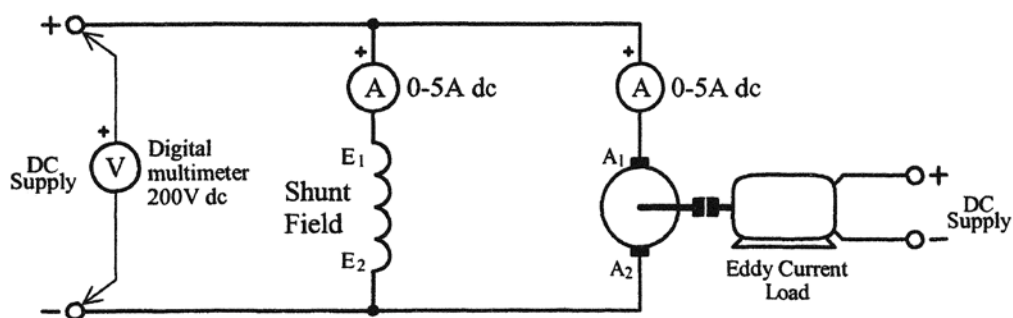

Figure 1
1. Connect the shunt motor, with eddy current load attached, as shown in figure 1.